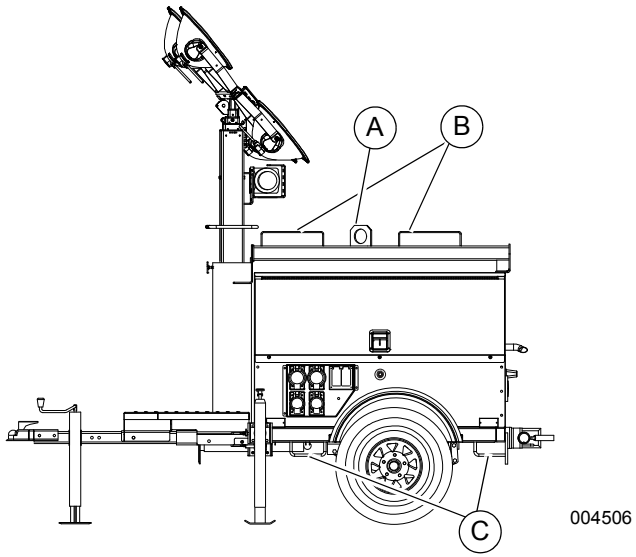

Figure 3-13. Lifting Point
2. See Figure 3-13. Close and lock all hoods and doors and stow the lights as shown.
4. When lifting the light tower and trailer, attach any slings, chains or hooks directly to the central lifting eye (A).
6. Use the upper (B) or lower forklift pockets (C) with care. Approach the unit as perpendicular as possible to avoid any damage to the unit. Make sure the mast winch handles or any other obstructions are clear of the forklift tines before lifting.